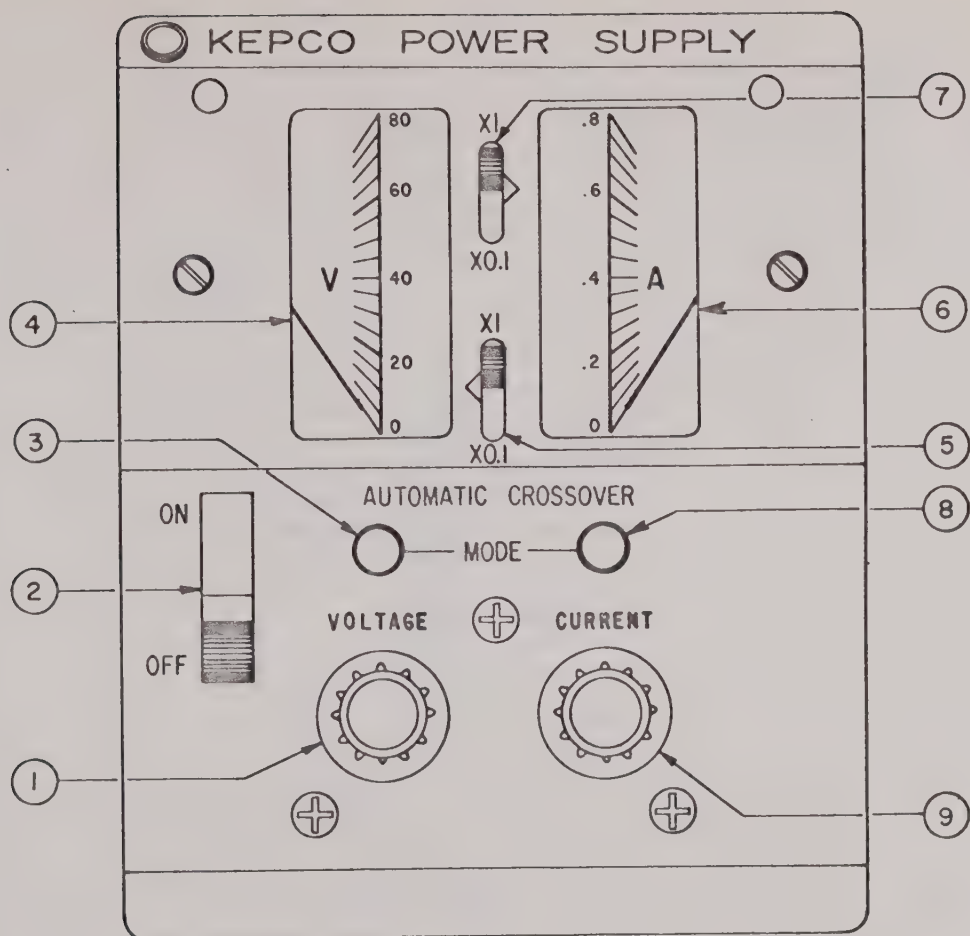
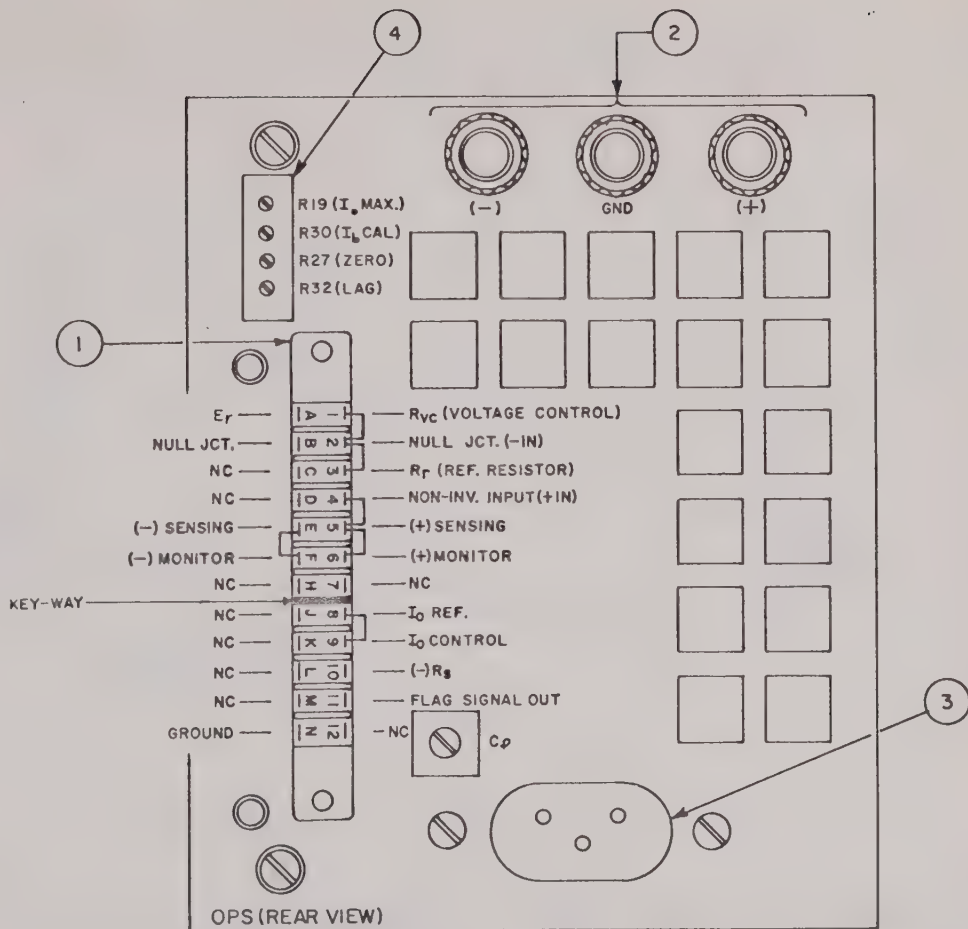

FIG. 2-2 CONTROLS AND TERMINATIONS, 1/4 RACK, OPS GROUPS IV, V, FRONT.
FIG. 2-3 TERMINATIONS, OPS GROUPS IV, V, REAR.
- FRONT PANEL: Refer to FIG. 2-2 and Table 2-2.
- REAR: Refer to FIG. 2-3 and Table 2-3.
NOTE: THE REAR PROGRAMMING CONNECTOR (PC-4) MUST BE ATTACHED AND WIRED AS SHOWN IN FIG. 2-3.
- 2-9 A simple operating check, after unpacking and before permanent installation, is advisable to ascertain whether the power supply has suffered damage resulting from shipment. Refer to FIG. 2-2 and FIG. 2-3 for the location of the operation controls and output terminals.